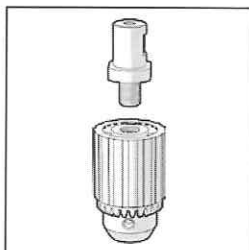

Fig. 10
- Screw the 3 jaw auxiliary chuck into the threaded bore of the chuck adaptor. (**Fig. 10**)